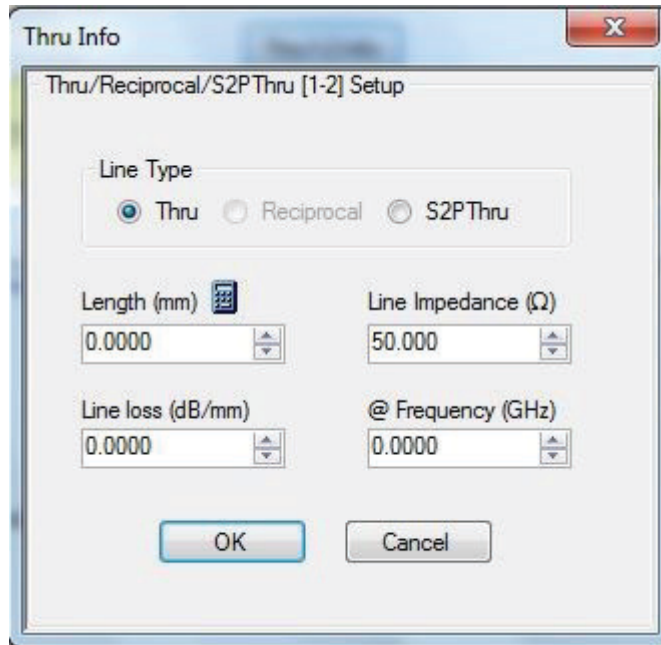

Figure 3-34. THRU INFO Dialog
7. Click on Thru1-2 Info and the THRU INFO dialog appears (see Figure 3-34) and verify that Length (mm), Line loss (dB/mm), and @Frequency (GHz) are set to 0.000.